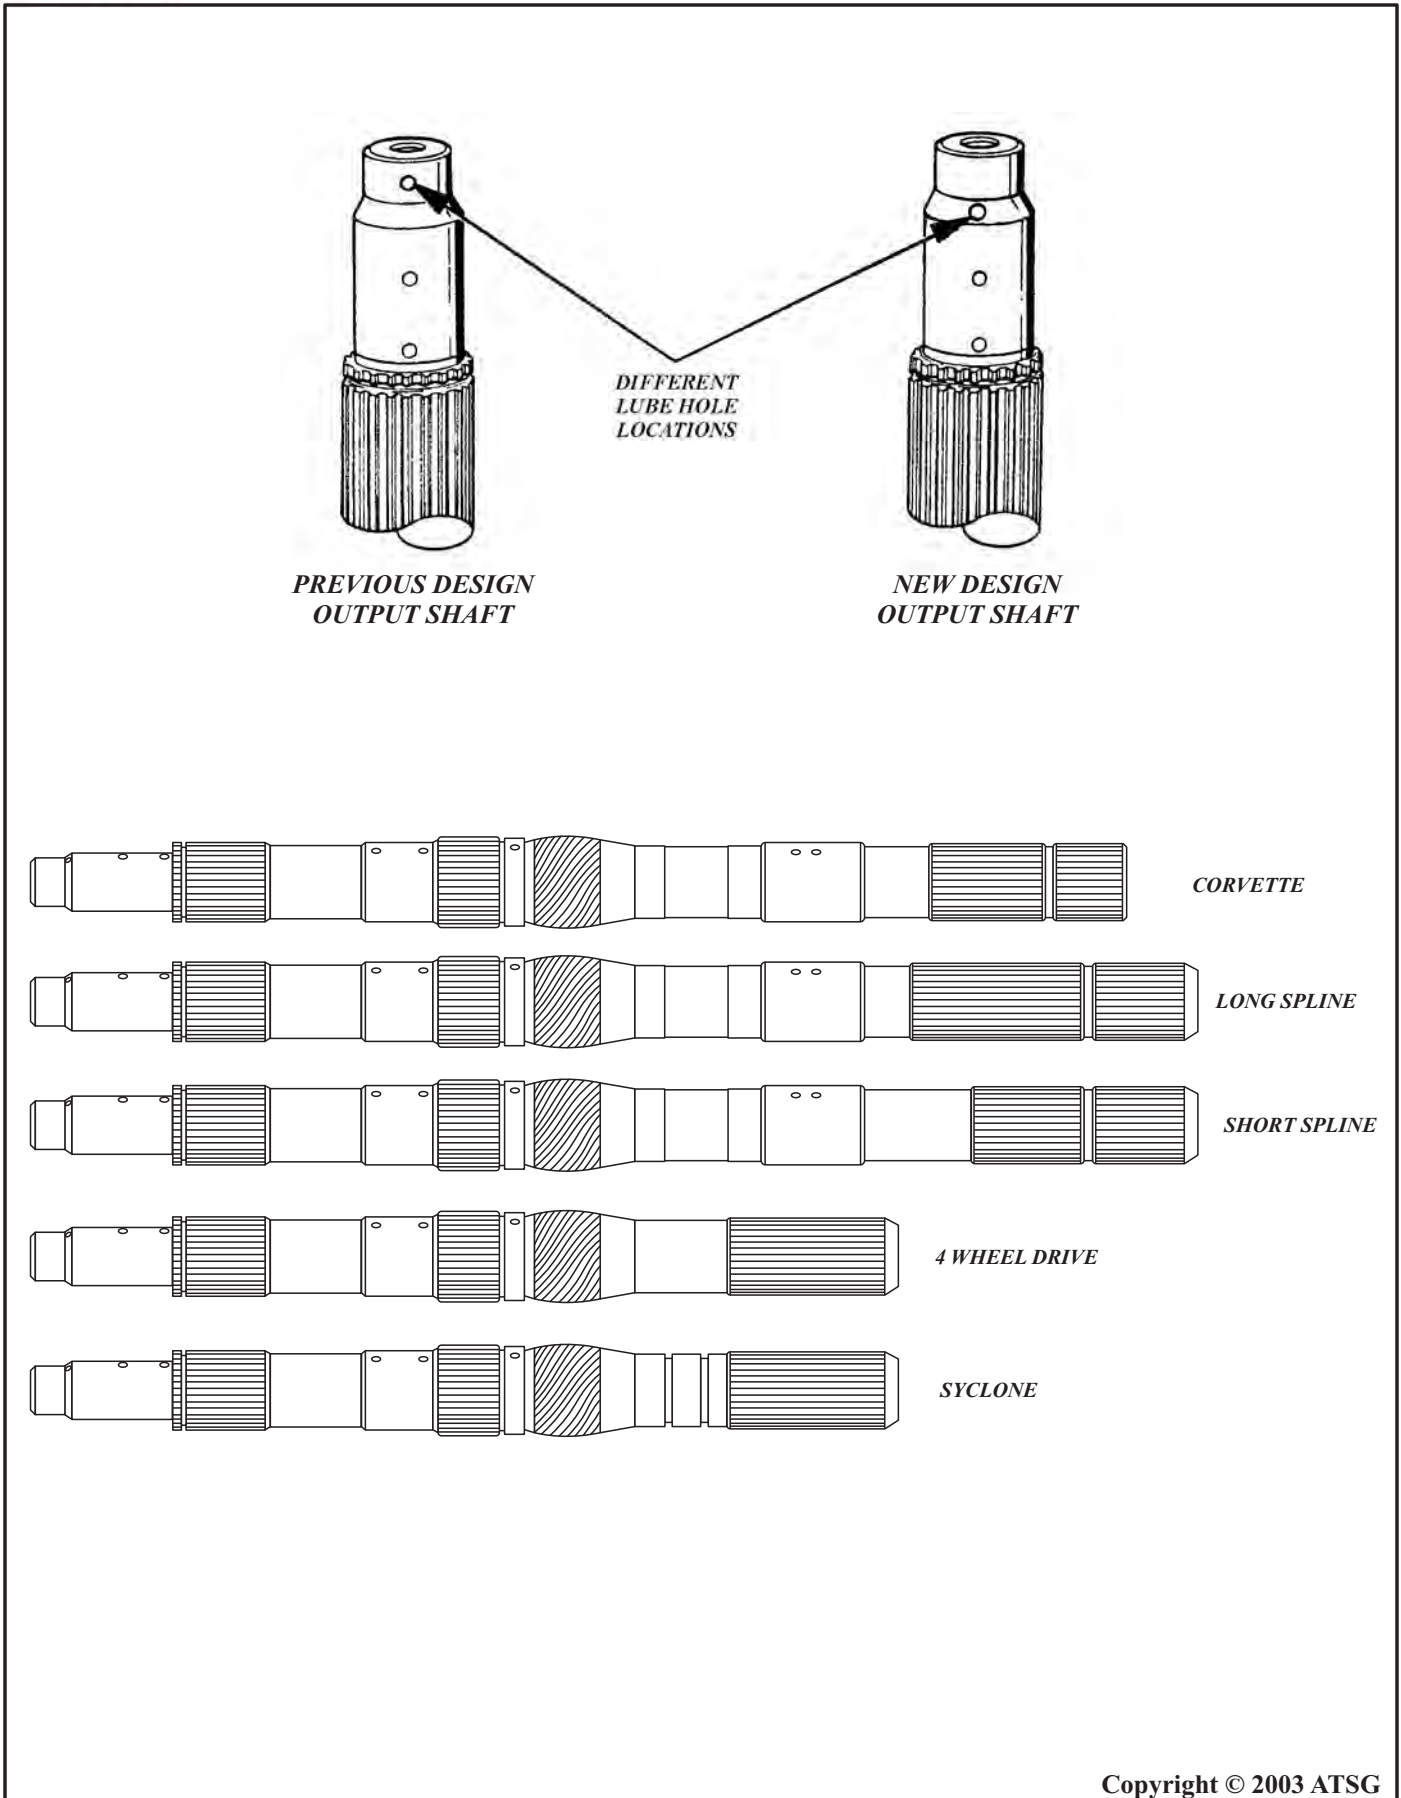

Figure 68
- (1) **OUTPUT SHAFTS** - Front lube hole relocated to the chamfered section of output shafts so as to direct lube oil directly at the small Torrington bearing located between the sprag race and the input housing, as shown in Figure 68.